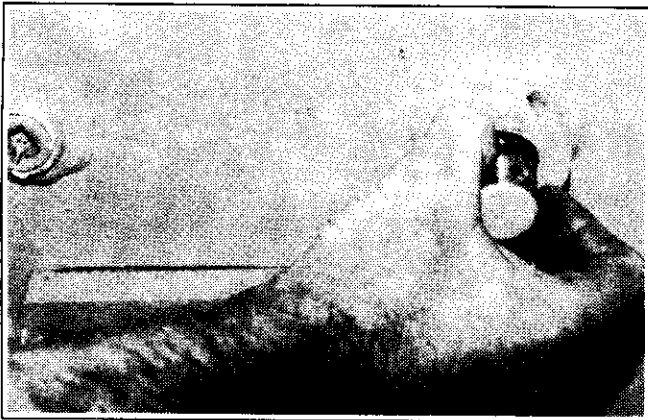

Figure 6-20
5. From outside of the machine, install the cluster shaft by forcing the pilot shaft through to the inside. (See figure 6-20)